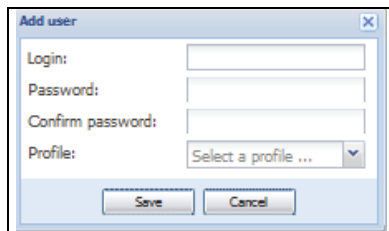

Figure 22. Add User Dialog Box
3. Type the user's login and the user's password (see Figure 22).